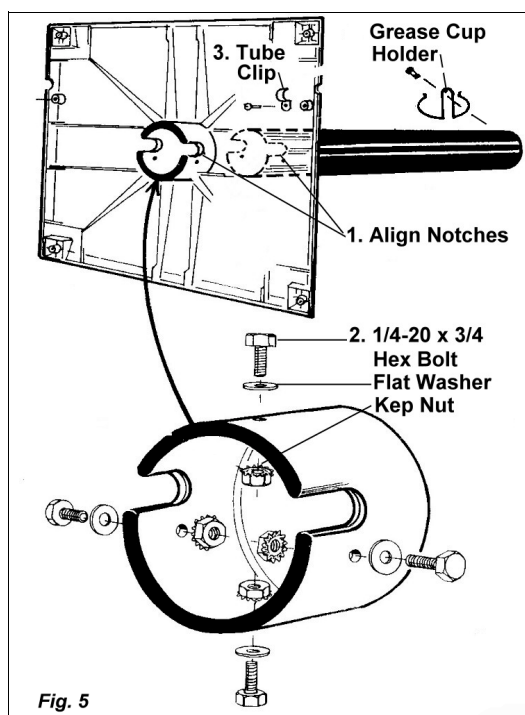

Fig. 5
Step 1: Patio Base Mounting Assembly (Fig. 5)